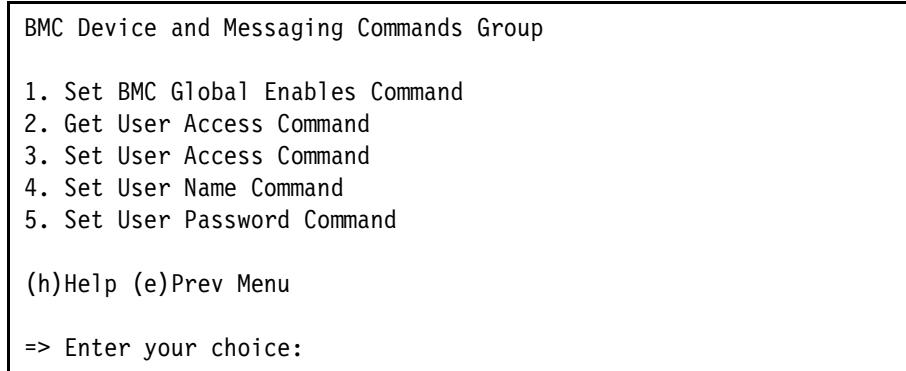
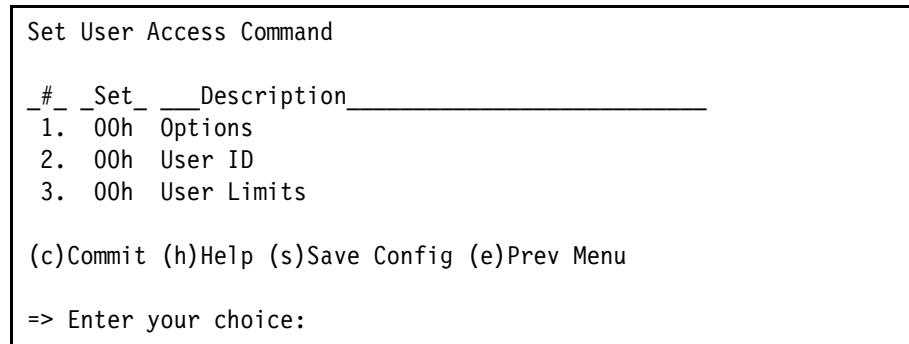

Figure 2-16 Device and Messaging Commands Group
Figure 2-19 Set User Access Command menu
1. From the BMC Device and Messaging Commands Group menu, Figure 2-16, enter 5 to select Set User Password Command. See Figure 2-17 on page 29.
1. In the BMC Device and Messaging Command Group menu, Figure 2-16 on page 28, enter 3 to select Set User Access Command. Figure 2-19 appears.